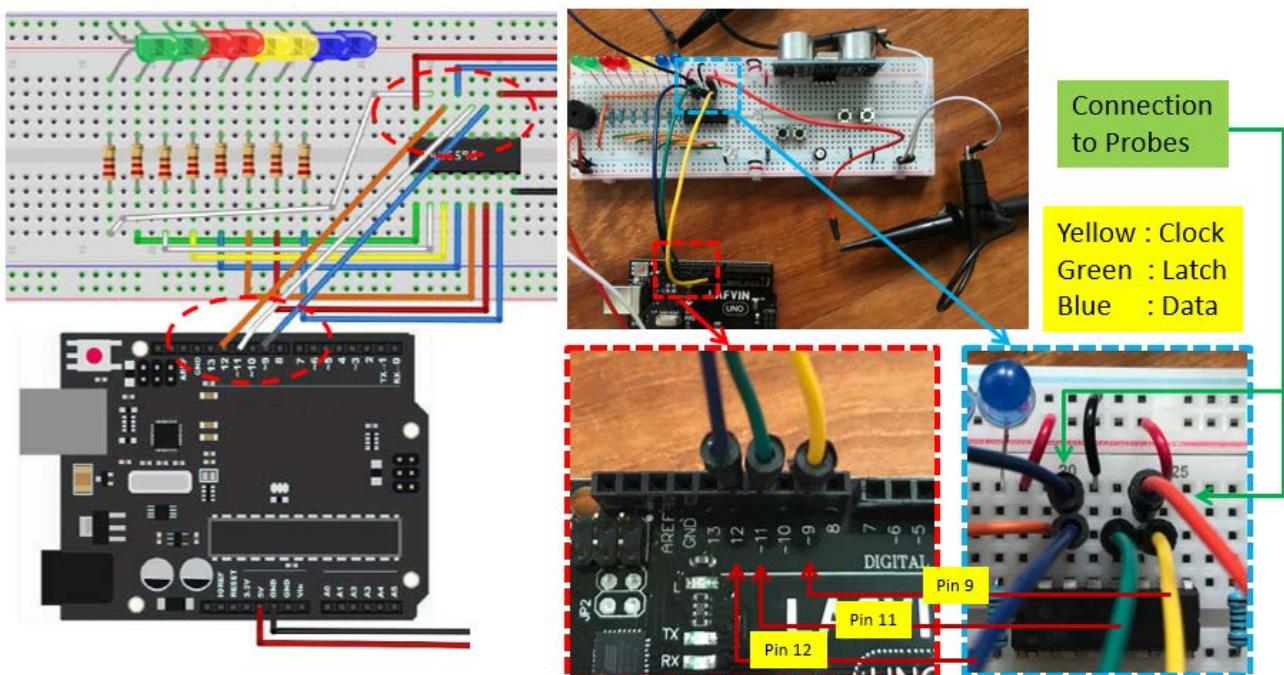

Fig. 19: Connecting Clock, Latch and Data signal of 74HC595 to Arduino Processor. Plus probe connections.
**#Task:** Connect the circuit as per Fig 19. You only need to connect the Clock, Latch and Data line. The power, ground and other control signals are already connected beforehand. This is shown as the Yellow, Green and Dark Blue wires in the Photo, note that the graphical illustration uses a different colour scheme. Also, probe the Clock and Data signal as shown in the photo in Fig 19.
- Ensure that connection shown in Fig. 19 is done.